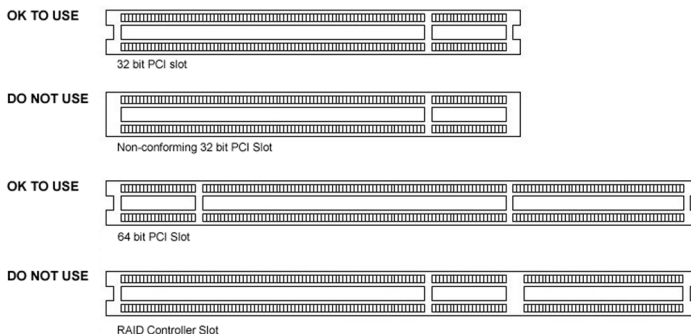

Figure 8: PCI and RAID Controller Slots
4. Install the BarcoMed 2MP2CP display controller into a free PCI slot, either 32-bit or 64-bit (see figure 8 above, for examples of slots). Be sure that the display controller is seated firmly in the slot.